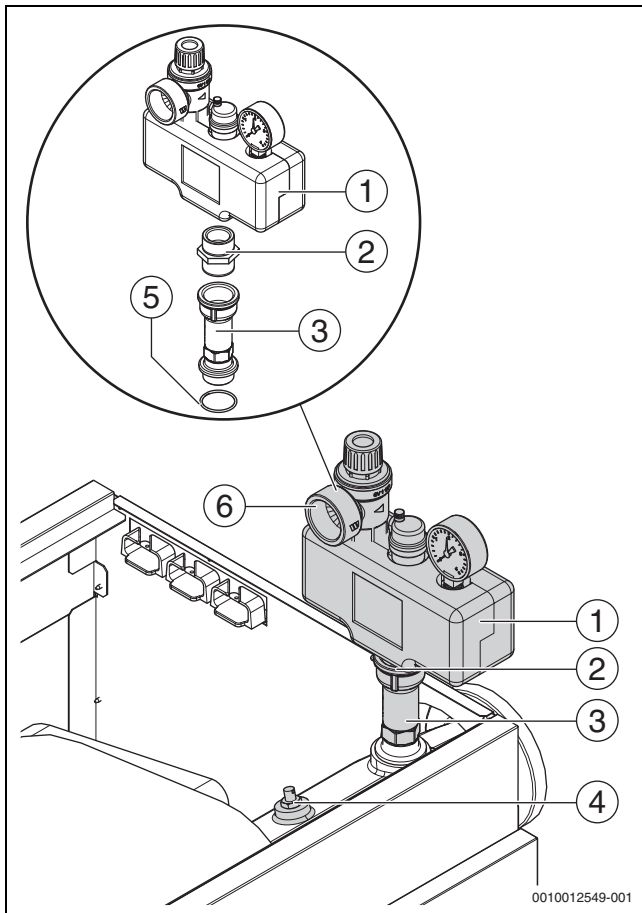

Fig. 17 Safety set, 3 bar (illustration shows right-hand boiler setup)
- ▶ Seal the pressure relief valve at the threaded connection of the heating flow using suitable sealants or supplied gaskets (→Fig. 17).